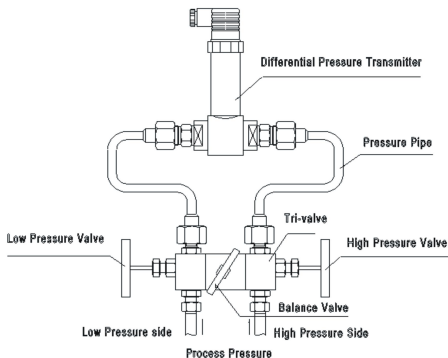

Fig. 3
- a) The recommended method is to see Fig. 3.